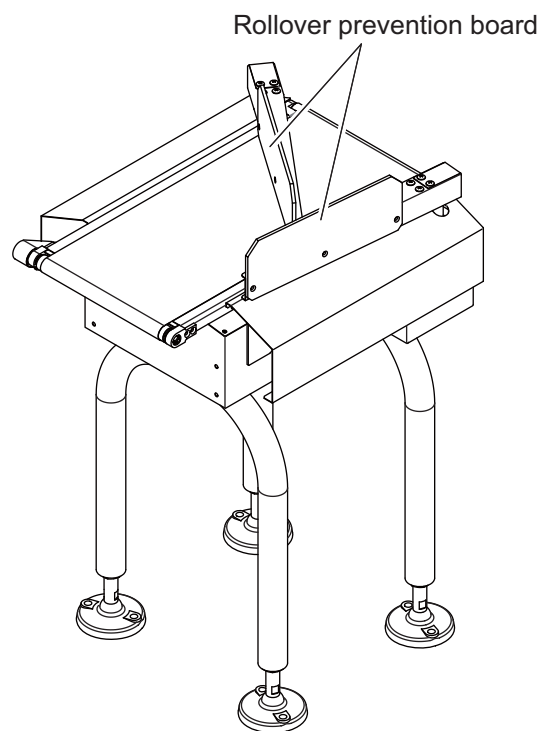

Fig. 10-1
- "Fig. 10-1 " shows the rejecter device of SS specification.